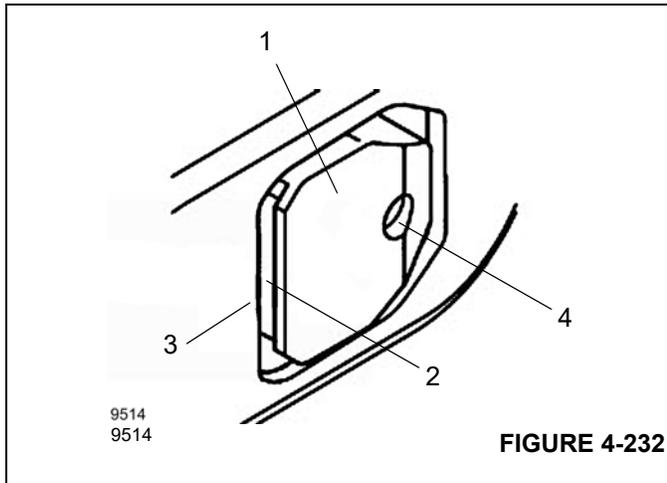

FIGURE 4-232
Refer to (Figure 4-232). You can only lock or unlock a Telescopic Section manually if the recess (2), in the locking pin (1) no longer engages in the Telescopic Section (3) above it.
Refer to (Figure 4-232). Extend the Telescopic Section approximately 20 mm (0.79 in) (with an auxiliary crane, forklift or other means of external force). The locking pin (1)
1. Remove the grease fitting from the bore hole (4), (Figure 4-232).
2. Insert a screw into the hole (4), (Figure 4-232). The locking pin (1), (Figure 4-232) is retracted in the process. You can assist this process by lightly hammering on the locking pins.
3. Tighten the screw against the spring load until the locking pin (1), (Figure 4-232) is pulled in as far as it will go and is situated behind the side wall of the Telescopic Section.
1. Retract the telescopic section until the locking pin (1), (Figure 4-232) is in the middle of the opening.
2. Remove the screw from the bore hole (4), (Figure 4-232).
The locking pin (1), (Figure 4-232) is then pushed out of the opening due to spring tension.
Retract the telescopic section until the recesses (2), (Figure 4-232) have been set down on the telescopic section (3), (Figure 4-232) above it.